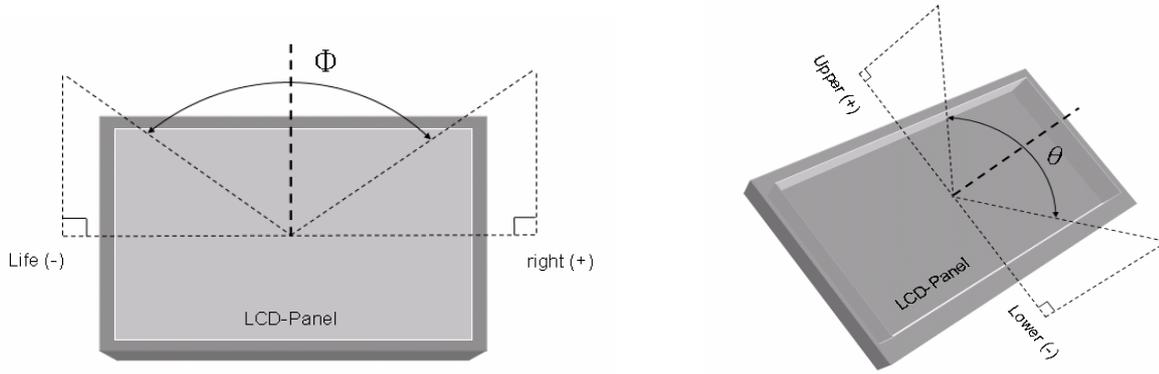

Fig8-2 Definition of Viewing Angle
*3) Definition of Viewing Angle(θ, ψ), refer to Fig8-2 as below : (in the dark room.EZ-CONTRAST (ELDIM))